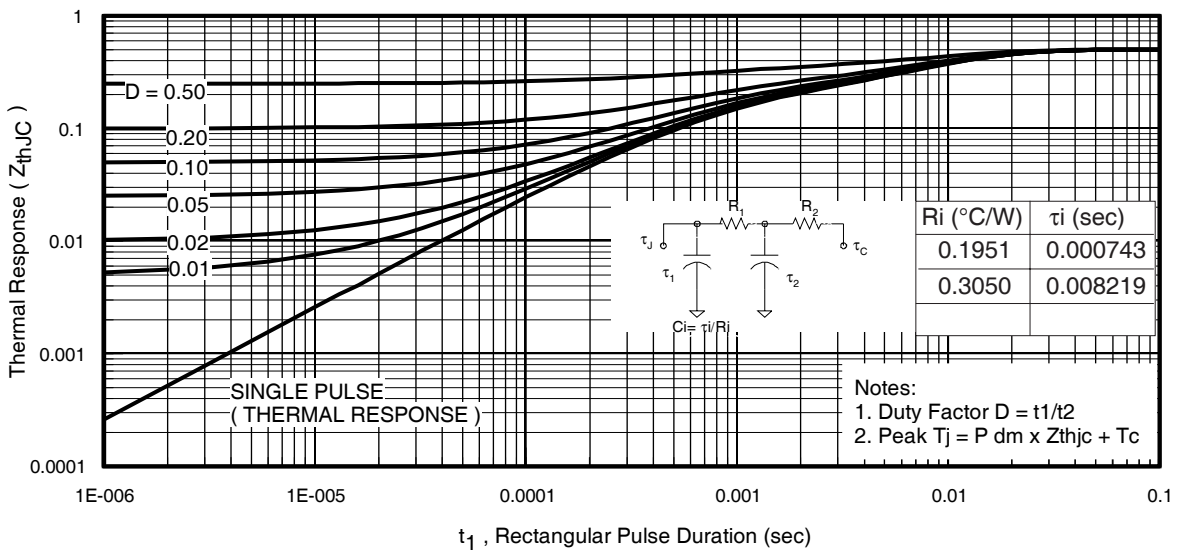

Fig 11. Maximum Effective Transient Thermal Impedance, Junction-to-Case
- ① Repetitive rating; pulse width limited by max. junction temperature. (See fig. 11).
- ② Limited by T_{Jmax} , starting $T_J = 25^\circ\text{C}$, $L=0.049\text{mH}$, $R_G = 25\Omega$, $I_{AS} = 160A$, $V_{GS} = 10V$. Part not recommended for use above this value.
- ③ Pulse width $\leq 1.0\text{ms}$; duty cycle $\leq 2\%$.
- ④ $C_{oss\text{ eff.}}$ is a fixed capacitance that gives the same charging time as C_{oss} while V_{DS} is rising from 0 to 80% V_{DSS} .
$Z_{thJC}(D, t_{av})$ = Transient thermal resistance, see figure 11)